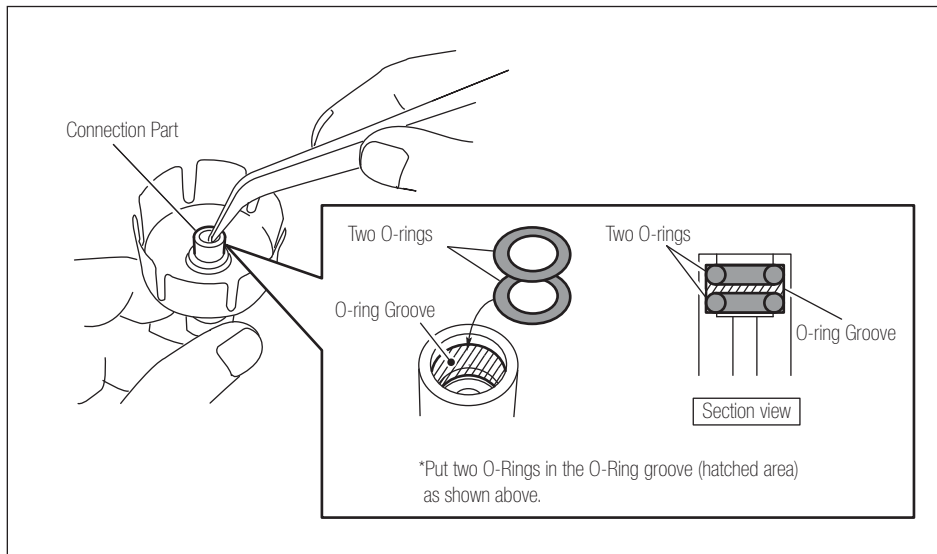

Fig. 15
(1) Remove two defective O-rings with tweezers or a similar instrument from inside the valve's Connection Part.
(2) Set two new O-rings in the O-ring Groove (hatched area in Fig. 15) with tweezers or a similar instrument.